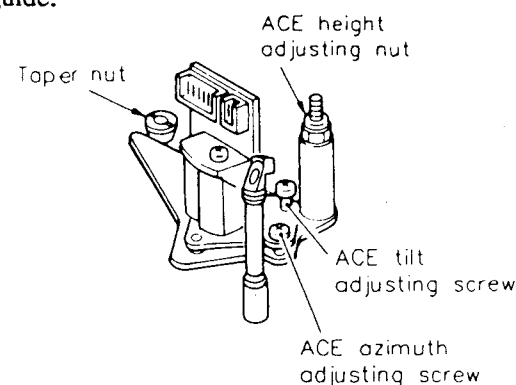

Fig. 5-4-3 ACE head assembly
1. If tape wrinkle is observed at the lower flange of No. 8 guide, adjust the ACE tilt adjusting screw counterclockwise as shown in Fig. 5-4-3 until the wrinkle disappears.
2. Adjust the ACE azimuth adjusting screw for maximum audio output as shown in Fig. 5-4-3.